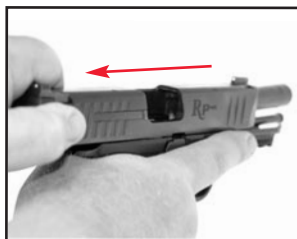

Figure 13
10. Pull and hold the slide fully rearward with your support hand. See Figure 13.